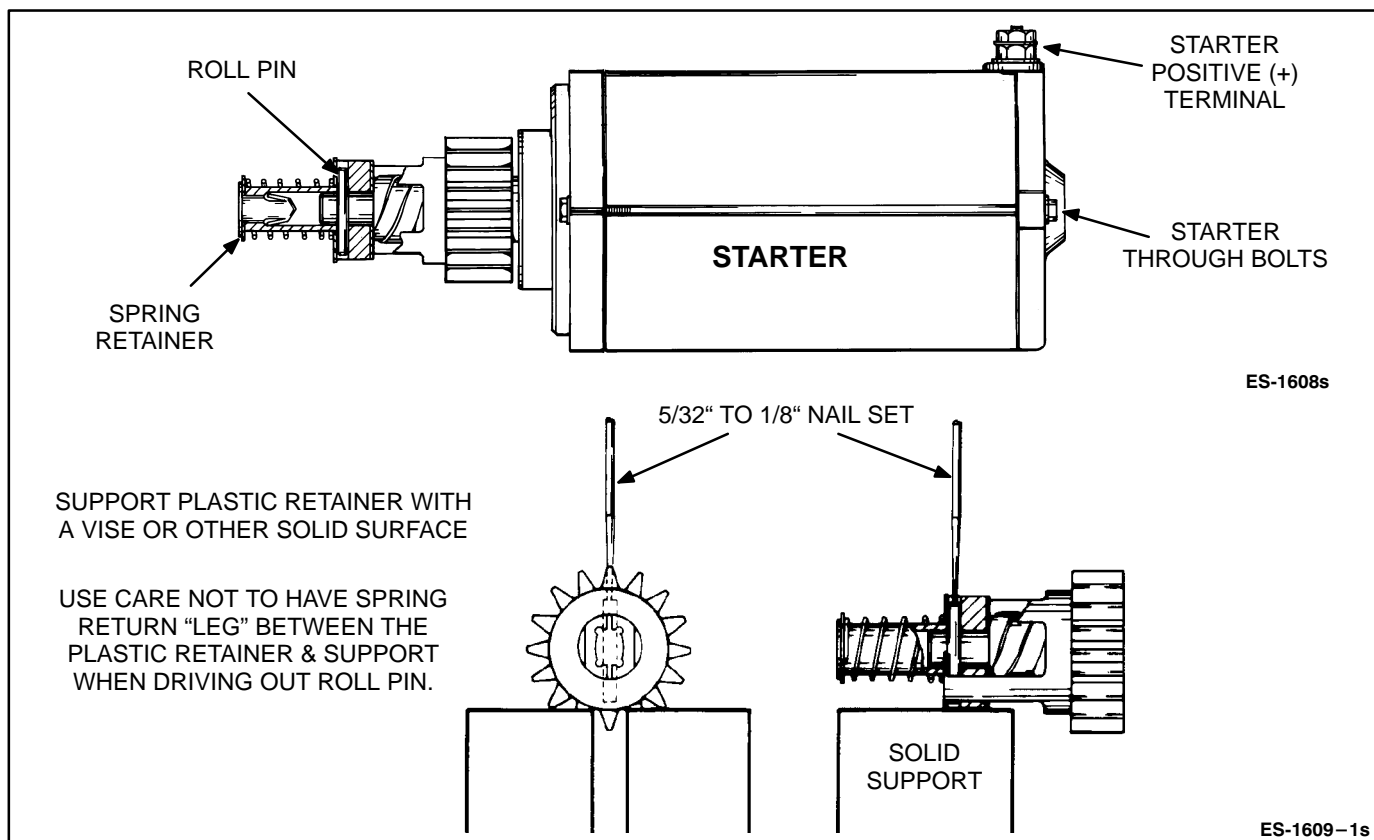

FIGURE 8-24. DRIVING ROLL PIN OUT OF STARTER ASSEMBLY
5. Use a 1/8 to 5/32 inch nail set to remove the roll pin from the armature shaft. (When reassembling, use a new roll pin.) Remove the return spring, gear and clutch assembly as required. See Figure 8-24.